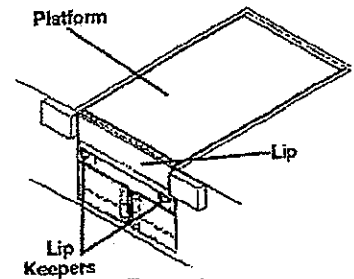

Figure 4
11. Use a fork truck (or other method) to raise the dock leveler platform. Remove the maintenance prop: Set the platform in the cross traffic position (lip fully folded, inside the keepers, and the platform level with the dock floor) See Figure 4.